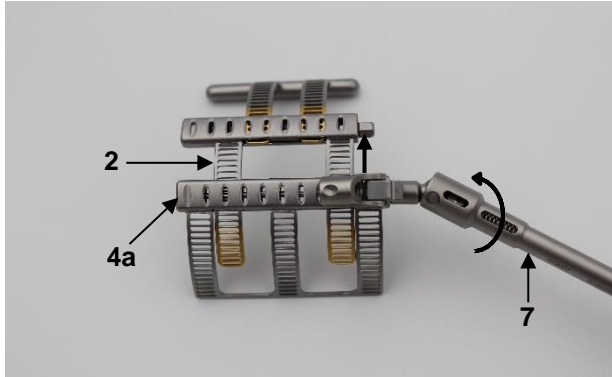
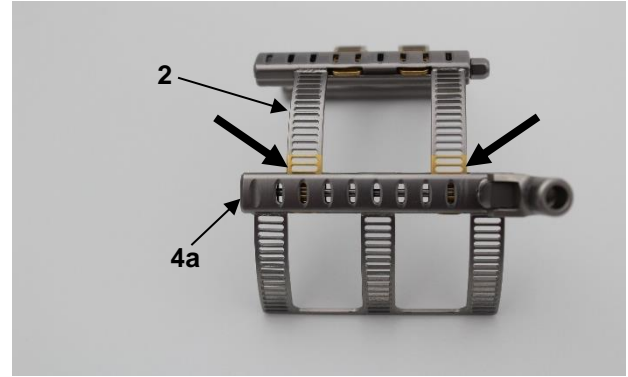

Fig. 3a
Fig. 3b
Then extend the primary element (2) using the appropriate screwdriver (7). To do this, turn the transport mechanism on the box module of the base element (4a) clockwise using a suitable screwdriver (7) (Fig. 3a). Only extend the primary element (2) until the first two gold-colored slotted holes can be seen from the box module (4a) (see Fig. 3b).